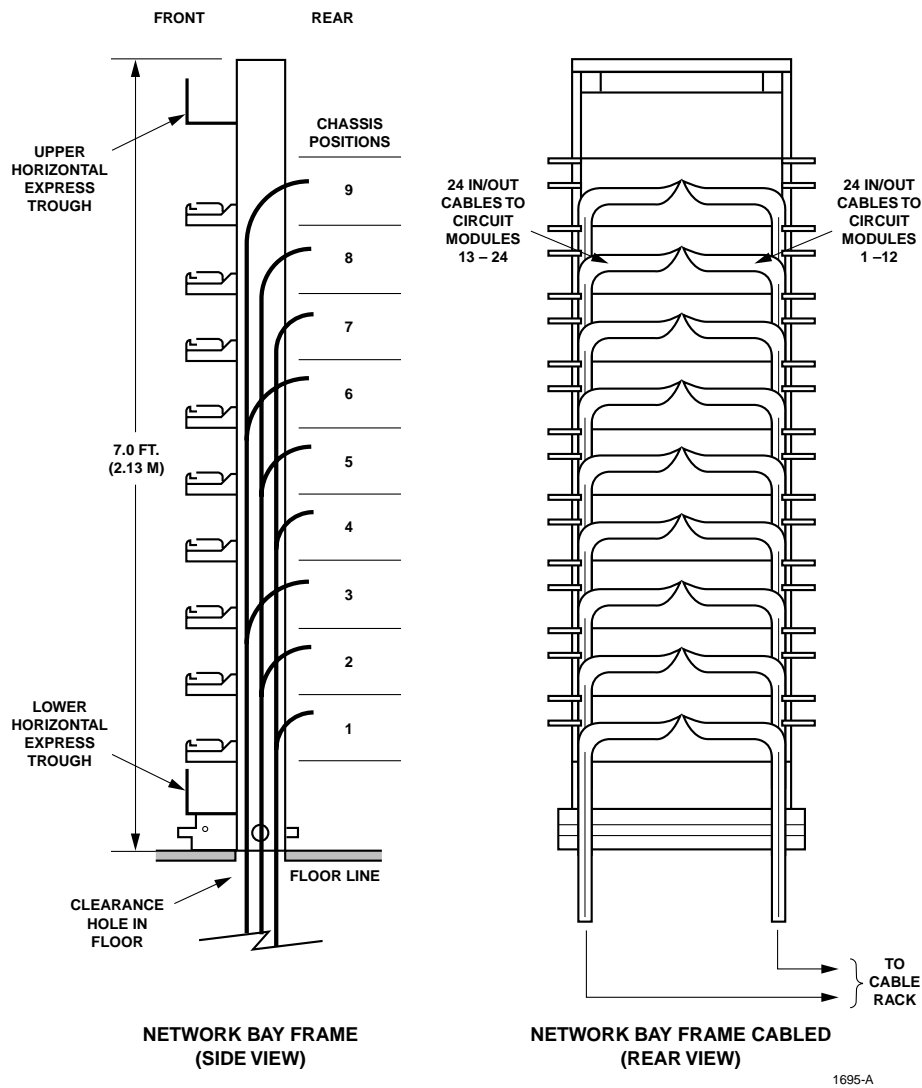

Figure 7. Cable Routing for Bottom Feed Cabling System
4.05 If cables are coming into the bay from below, cable attachment should start at the top and work down the bay. Using nylon tie-wraps or cable lacing, separate cables into two bundles of 24 cables for each chassis. When viewed from the rear, the 24 cables from modules 13-24 should go to the left, with those from modules 1-12 going to the right, as shown in **Figure 7**. The floor clearance hole on each side of the frame should be 4 inches by 4 inches (10.2 cm by 10.2 cm), when using 734A or equivalent cable, or 2 inches by 4 inches (5 cm by 10.2 cm) if using 735A or equivalent cable.